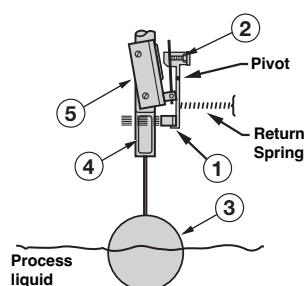
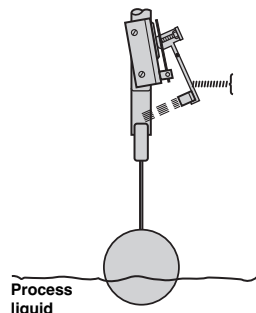

Figure 1
Figure 2
Figures 1 & 2 illustrate the simple, reliable operating principle of a float level switch. Switching action is obtained through the use of a magnetic sleeve (4) and a float (3), displacer or flow sensing element and a switching mechanism (2). These two basic component assemblies are sep-
As level of a liquid in a vessel rises (Figure 1), the float rides on the liquid surface moving the magnetic sleeve upward in the enclosing tube and into the field of the switch mechanism magnet. As a result, the magnet is drawn in tightly to the enclosing tube moving the switch adjusting screw and allowing the activating arm of the snap switch to move, making or breaking the electrical circuit. As the liquid level recedes (Figure 2), the float and magnetic sleeve moves downward until the switch magnet releases and is drawn outward, away from the enclosing tube by a tension spring. This in turn allows the activating arm of the snap switch to move, thus reversing switch action.